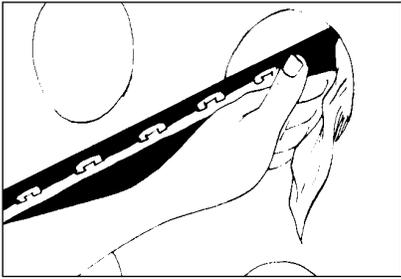

Figure 3
1. Clean 4" of duct and the cable sheath with a wet cloth. *(Figure 3)*